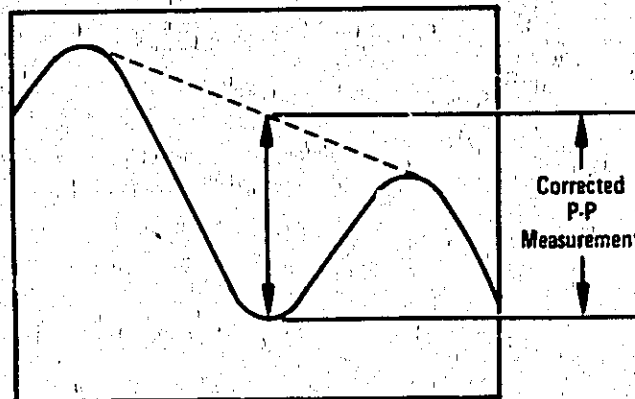
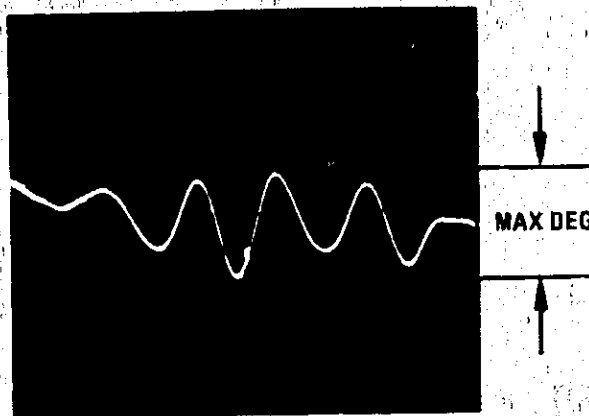

Figure 14. Slope Peak-To-Peak Measurement
Figure 15. TEST Port Open/Short Ratio Phase > 2 MHz
If a peak-to-peak measurement is made in an area where there is some slope, a corrected reading can be obtained by connecting two adjacent upper peaks with a dotted line. Extend a vertical line up from the lower peak until it intersects the dotted line. This constructed vertical line is the averaged or corrected peak-to-peak measurement to be used (Figure 14). Avoid making peak-to-peak measurements at extreme slope changes.
- (5) Measure the maximum peak-to-peak variation on the display (Figure 15) and record the results (See Figure 14):